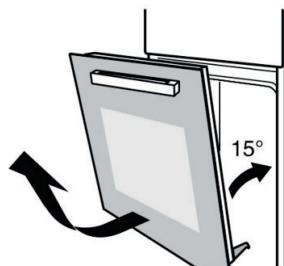

Figure 2
2. Close the oven door, at about 15 degree, then lift the door, and slowly pull out from the oven.(Figure 2)